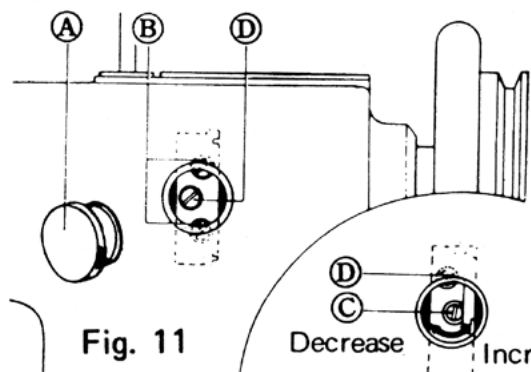

Fig. 11
- (1) Remove the rubber plug (A) on the machine arm.
- (2) Loosen the two screw (B) by rotating the balance wheel by hand (Fig. 11).
- (4) After the adjustment tighten the screw (B) firmly.
- (5) The screw (D) is not required to loosen (Fig. 11).